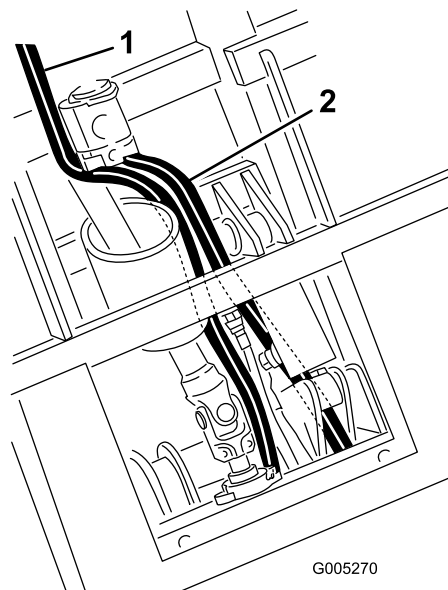

Figure 18
- Route the tank hose under the lift cylinder and between the cylinder mounting brackets to the valve (Figure 18).
- Route the pressure hose along side the PTO shaft to the valve (Figure 18).